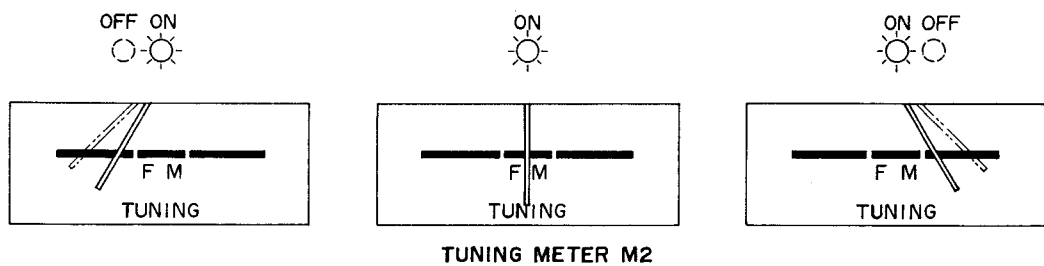

Fig. 18
- 5) Adjust the core of FM IF Amp. P.C. Board coil T202 so that when the receiver dial is turned and detuned to left and right from the tuned condition in Item 4), left and right tuning meter balance is attained and the stereo indicator lights as shown in Fig. 18.